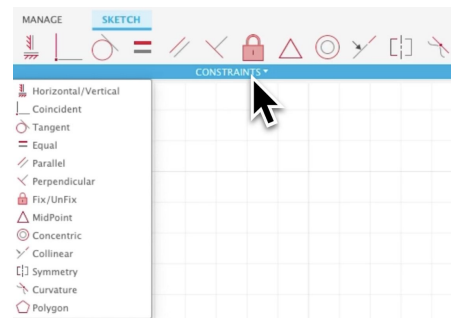

Figure 1.2
- To fully define your sketch, you'll need to apply constraints, which can be found in the '**Toolbar**'. (see Figure 1.2)